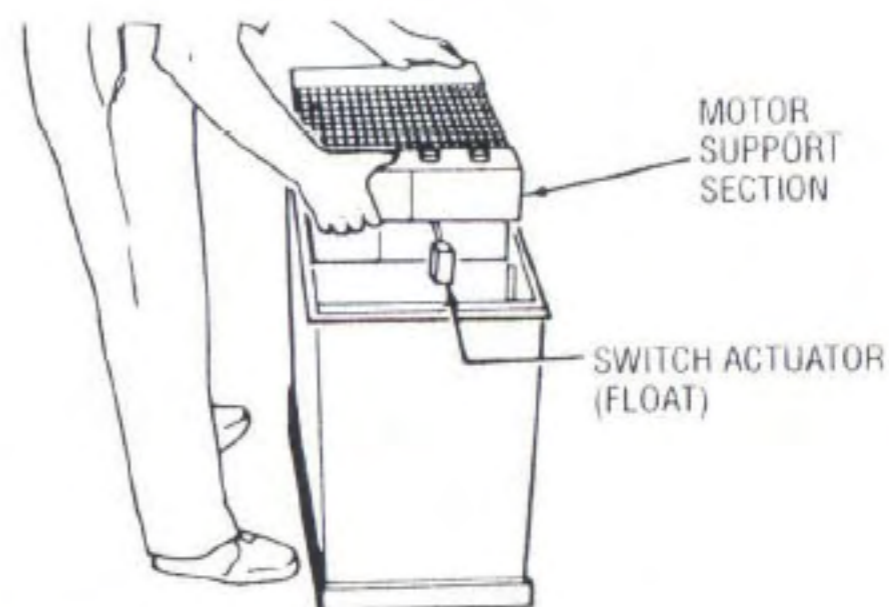

Figure 12
6. Carefully lift out the motor support section (Figure 12) and wipe off any mineral deposits with a clean cloth.
4. With one hand on each side of the motor support section (Figure 12), lift straight up and set gently on the floor in an upright position.